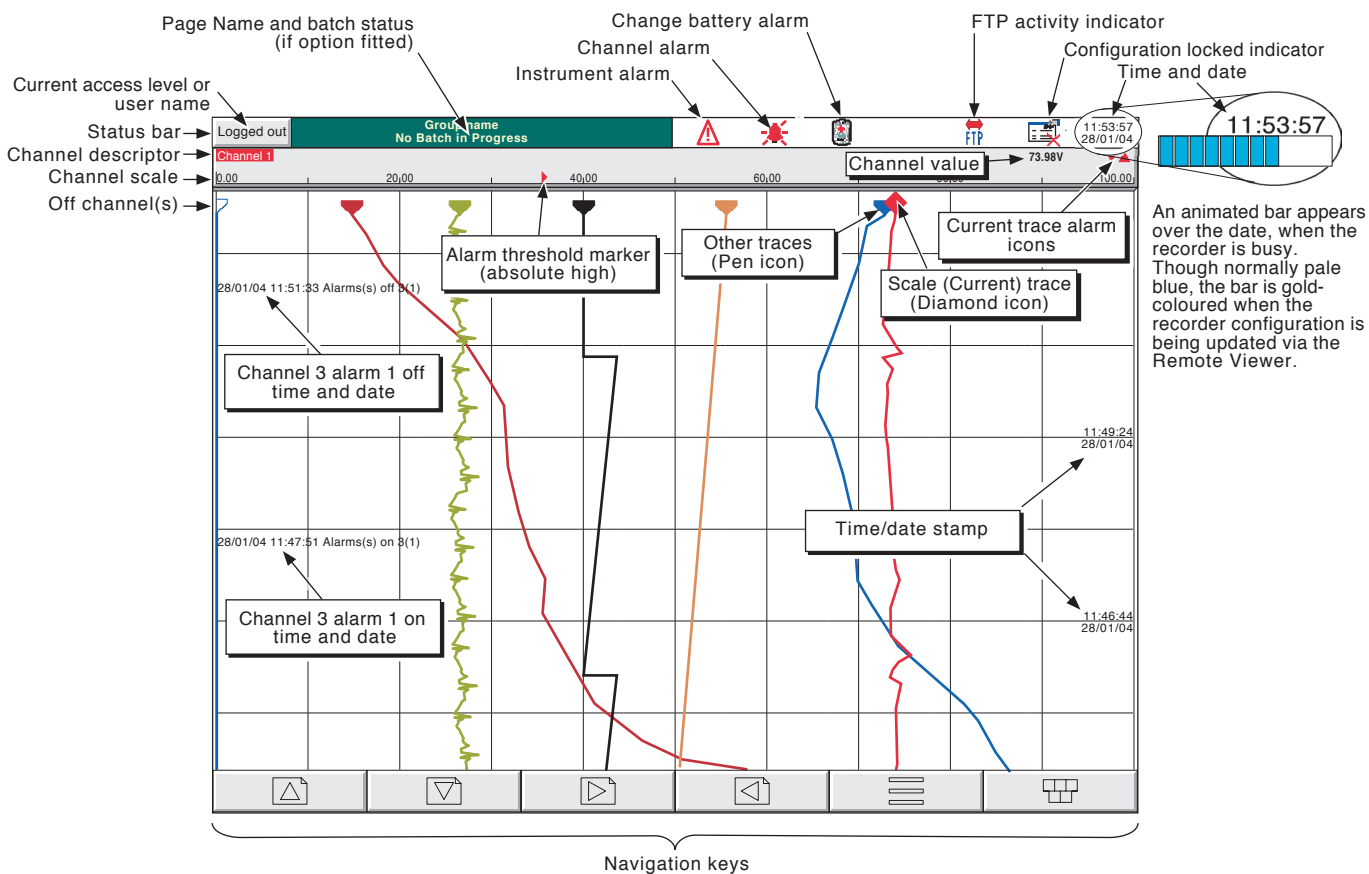

Figure 3 Trend display definitions
Process variable values can be displayed in one of a number of formats. This section (3) describes the process variable displays. (Section 4 describes the Configuration displays.) Figure 3, below, depicts a typical trend display and gives details of the various areas of the display page.
- Home Causes a return to the 'Home' page from other page. As delivered, the 'Home' page is the Group 1, vertical trend display as depicted in figure 3, above, but this can be edited (in Config/Views) to be any of the other available groups' display modes - Horizontal trend, Vertical bargraph, Horizontal bargraph, Numeric etc.